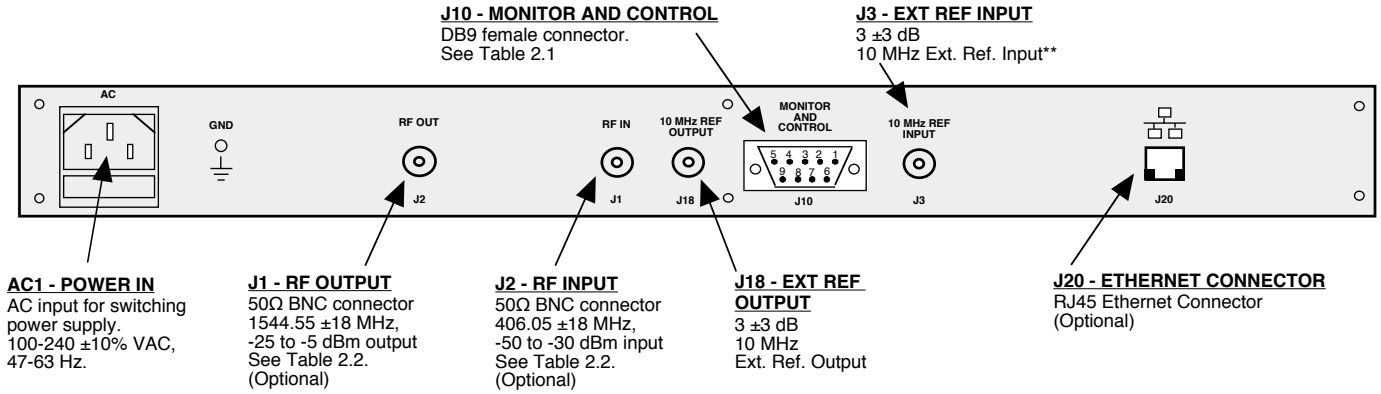

FIGURE 2.1 2083-0415# Rear Panel I/O's
Figure 2.1 shows the input and output connectors on the rear panel.
1. Connect a -50 dBm to -30 dBm signal to IN, J2 (Figure 2.1)